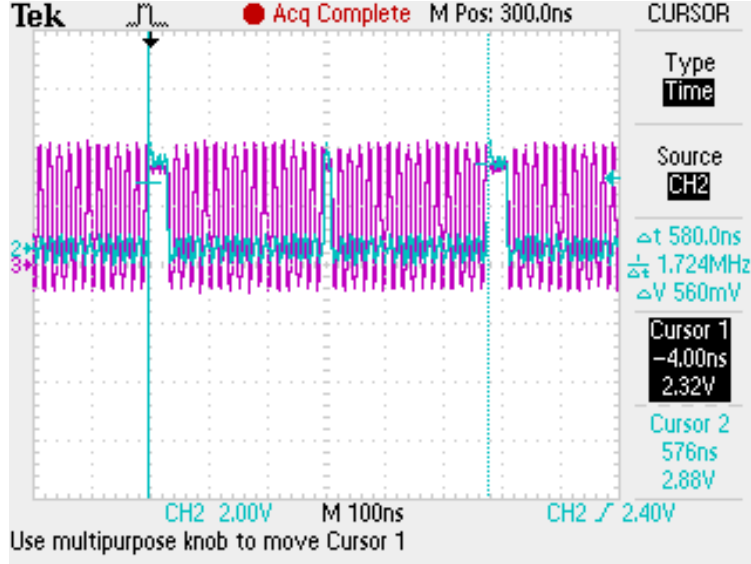

Figure 5: Measurement of ADC throughput. The clock(purple) and chip select(blue) signals are perfectly synchronized.
2. Directly measure the period of transaction on oscilloscope(Fig. 5).